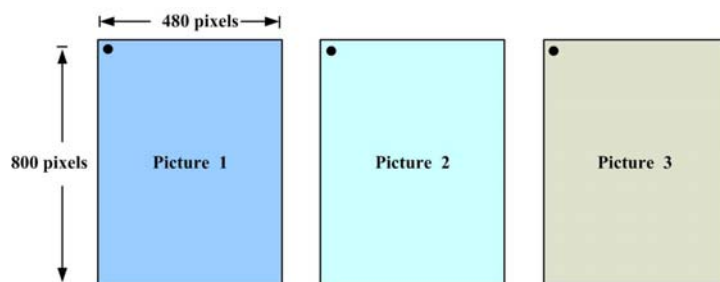

Figure 4.9. Original photo's resolution format
1. Prepar three 24 bit *bmp* format photos and image resolution should be 800(high) x 480(width), as shown in Figure 4.9